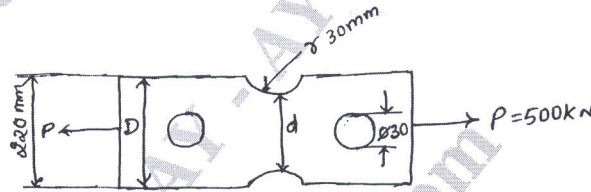

Fig.Q1(c)
c. A bar of rectangular section is subjected to an axial pull of 500 kN Fig.Q1(c). Calculate its thickness if the allowable tensile stress in the bar is 200 MPa.